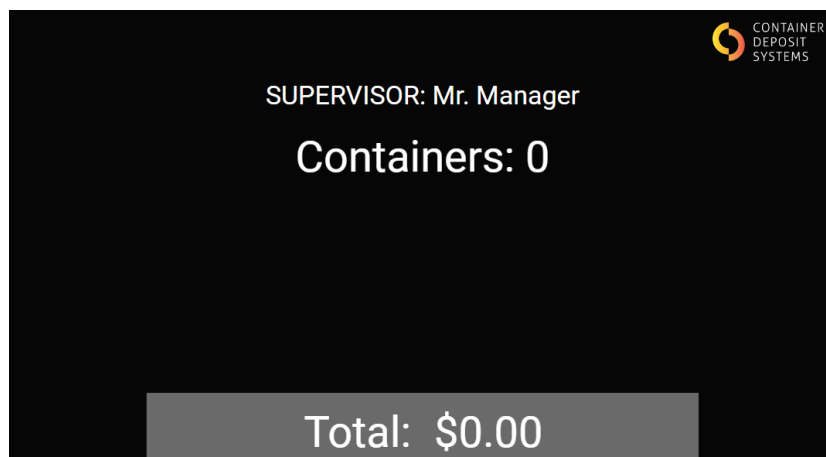

Figure 14. Batch
- The customer places only eligible containers on the corresponding belts with the correct spacing. Containers will be counted on the screen as seen in Figure 14. Batch. For more information regarding the ART capabilities, refer to section 4.2. ART Technology Capabilities